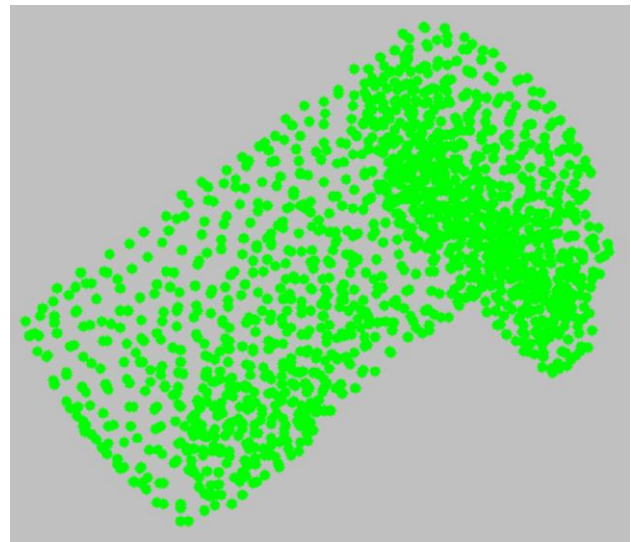
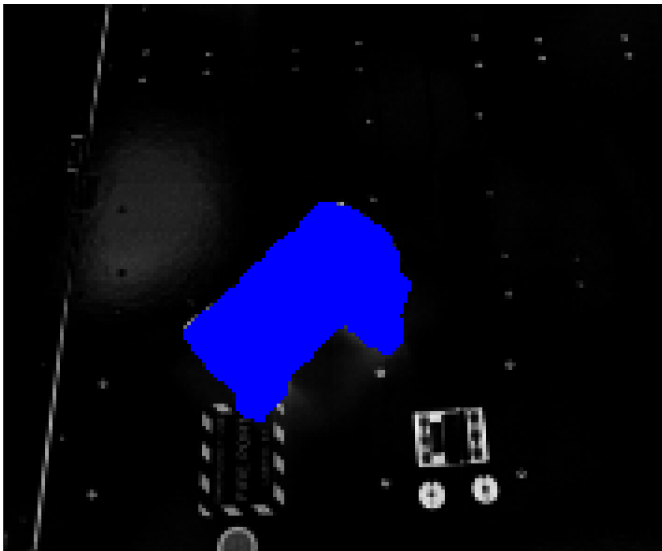
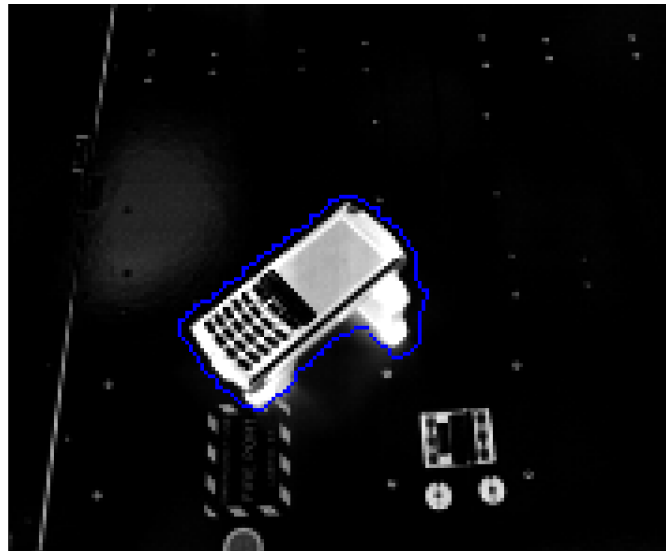

Figure 2 – Model points after interpolation and reduction.
Figure 6 – A successful evaluation.
Figure 7 – In blue, pixels discard when a more precise evaluation is used.
- eval1:** this is another key piece of the solution, used in the two loops. It returns a score for a given position. Ideally, better (closer to the ground truth) positions would produce greater values. First it "renders" the model points, adding a border to each point, in order to cover all object, filling the empty space between points that can be observed in Figure 2. Then it compares covered pixels with the "difference" image (Figure 4). Covered pixels should match pixels with high difference values. If it covers a pixel with a low value (which likely doesn't belong to the object), score is penalized. High "difference" values that weren't covered also decrease the score, because the current evaluated position missed them. Figure 6 shows an evaluation of the final position (a successful example), in which blue pixels (model pixels, with a border) covered the high "difference" pixels (and the object). Figure 7 shows only the pixels removed from the evaluation in the third phase of main loop. This is done because the border added to each model point made the considered area bigger than the desired one, as an effect of adding extra pixels close to boundary pixels. Removing them allows a better match, but as this process is slow (at least the way I implemented), it is used only in the last phase.